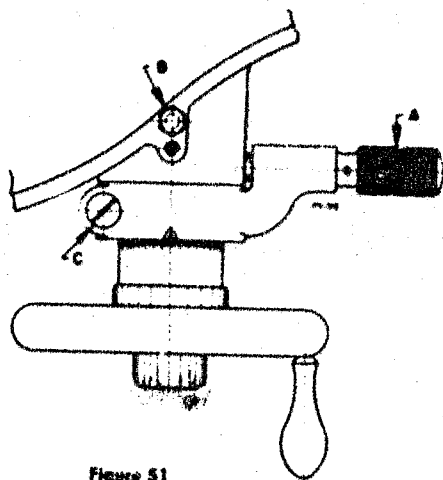

Figure 51
1. Loosen screw "B" (Figure 51).